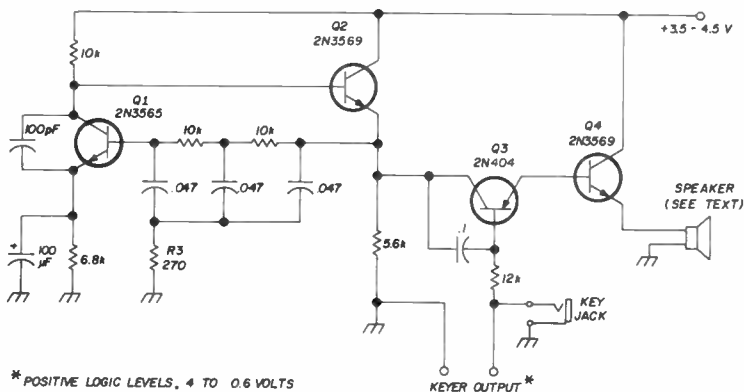

fig. 8. Schematic of the 1-kHz audio oscillator. Output frequency is determined by integrator circuit between Q1 and Q2.
A minimum number of components is used in an efficient sine-wave oscillator circuit (fig. 8). Transistors Q1 and Q2 form a high-input and low-output impedance amplifier, a feature of operational amplifiers. A "basic isolated integrator network" is inserted between input and output. The circuit can be made to oscillate at the frequency determined by the network constants by omitting a resistor between the base of Q1 and ground. Slight adjustment in frequency can be made by changing the value of R3; however, don't make too big a change since stability may be affected. Q3 operates as a series switch and is turned on by grounding its base resistor. The transistors specified for Q3 are germanium types because of their low saturation voltage, which promotes efficient switching. Q4 is an audio power amplifier and drives a speaker directly.
fig. 8. It is difficult to couple a grid-dip meter to large antenna elements because of the small diameter of the coil (A). A larger coil, shown in B will do the job.